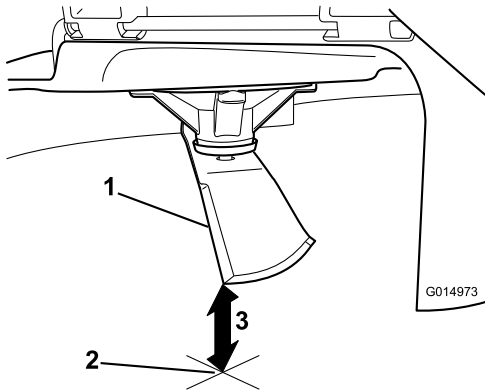

**Figure 57**
3. Measured distance between blade and the surface (A)
4. Rotate the same blade 180 degrees so that the opposing cutting edge is now in the same position (Figure 57).